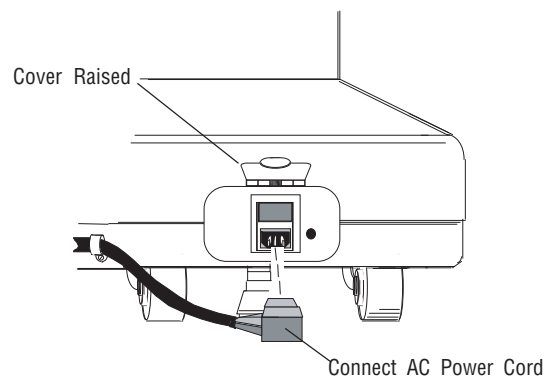

Figure 3-1. Power Cord Connection (Electric Table Only)
2. Connect female end of 20' (6 m) long power cord* to male connector located on narrow end of table base (can only be connected one way). See Figure 3-1. Lift hinged cover to access the connector.